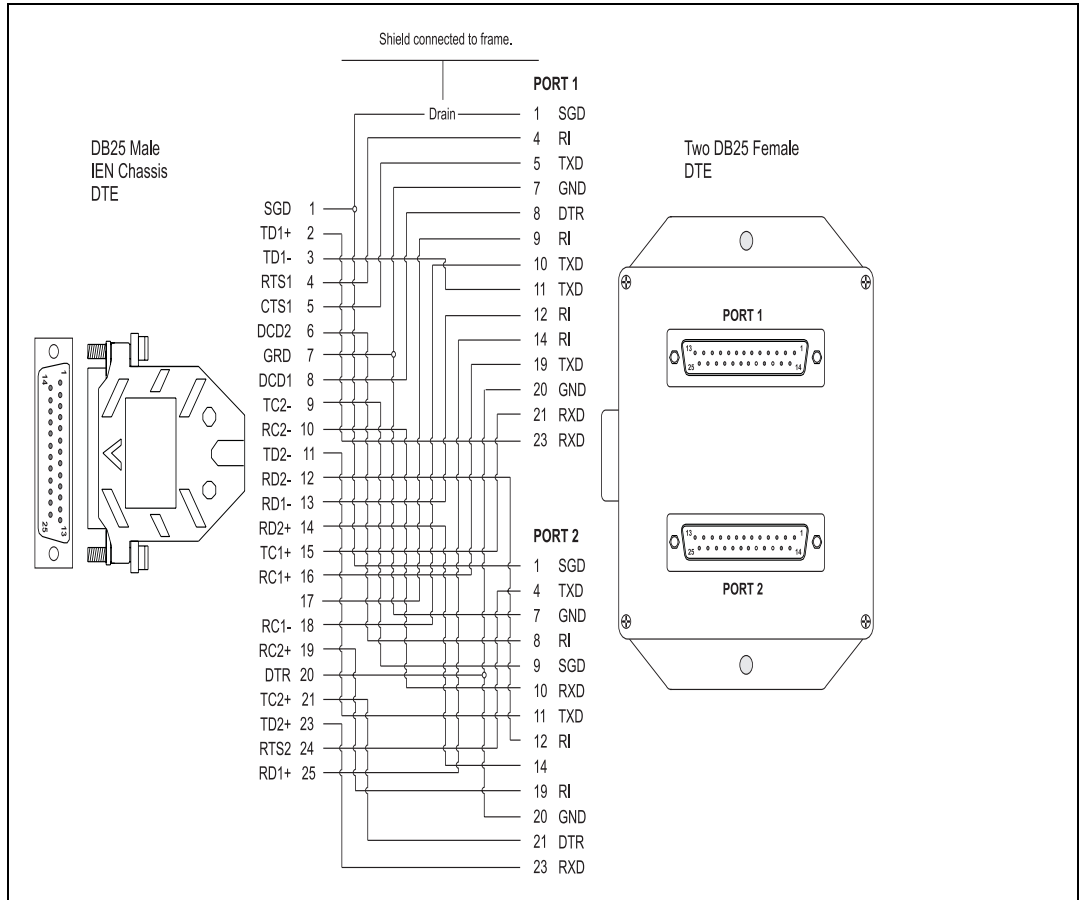

Figure 4-64 Type 2VE Cable Pinouts
The Hypercom Type Y(63) cable (#810117-001) is a male DB25 to two female DB25 cable. The cable provides two DB25 DTE connectors that come off of a CID63 port processor. The length of the cable is 3'. This cable can be connected to the Type V, VF, VX, A and D cables. Figure 4-64 illustrates the pinout for the Type Y(63) cable.
The Hypercom Type 2VE cable (#810083-001) is a male DB25 to two female DB25 cable. The cable is used only with the CID61-Dual port processor to connect up to two V.35 DCE ports. The length of the cable is 3'. Figure 4-64 illustrates the pinout for the Type 2VE cable.